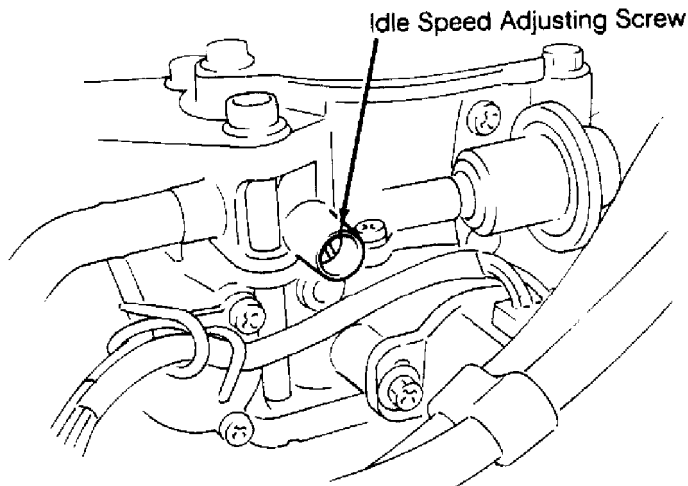

Fig. 5: Locating Idle Speed Adjusting Screw (Typical)
protective cap on throttle body. To adjust idle speed, turn adjusting screw. See Fig. 5.
3) Start engine, and warm it to operating temperature. Ensure idle speed and IAC duty percentage are within specification. See IDLE SPEED SPECIFICATIONS and IAC DUTY AT SPECIFIED IDLE SPEED tables. If idle speed and/or IAC duty percentage require adjustment, remove idle speed adjusting screw protective cap on throttle body. Turn idle speed adjusting screw to adjust idle to specification. See Fig. 5.